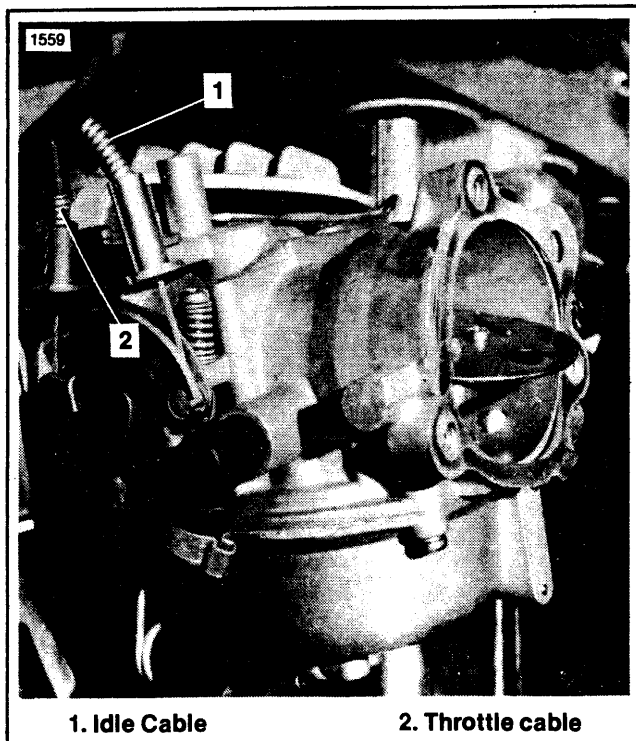
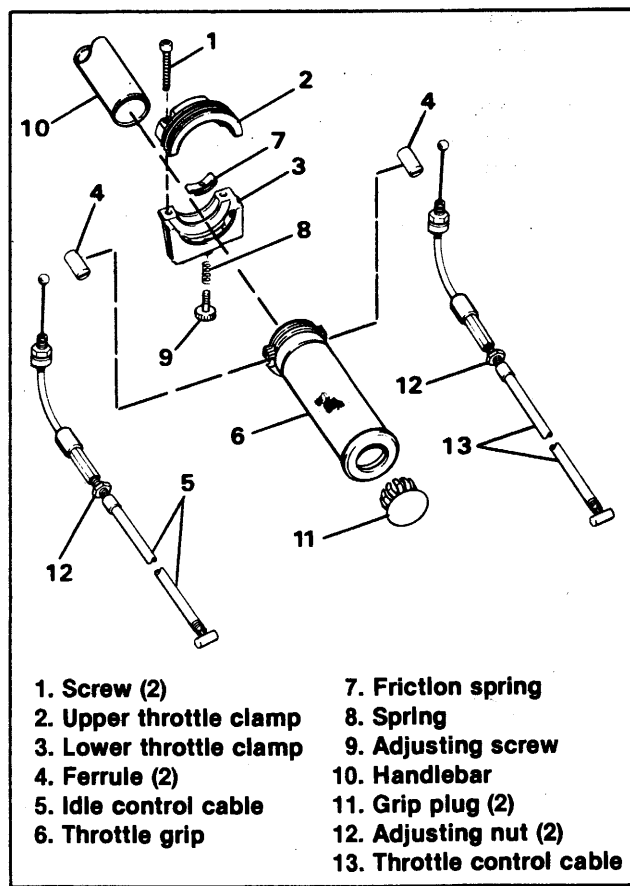

Figure 1. Cable Installation
Figure 2. Handlebar Throttle Control 1981
All 1981 model motorcycles are equipped with a dual cable throttle assembly commonly referred to as a "Pull-Pull Throttle." See Figure 1. One cable (throttle) pulls the throttle butterfly open as on previous models while the other (idle cable) pulls the butterfly closed when the grip is turned clockwise. The carburetor is equipped with a return spring which closes the throttle when grip is released as on previous models.
See Figure 1 and Figure 2. The throttle cable has a 5/16-18 in. threaded adjuster and is assembled to the right side of the throttle grip. The idle cable has a 1/4-20 in. threaded adjuster and is assembled to the left side of the throttle grip.
See Figure 2. All adjustments must be made with the adjusting screw (9) backed off far enough to allow free rotation of the throttle grip (6).